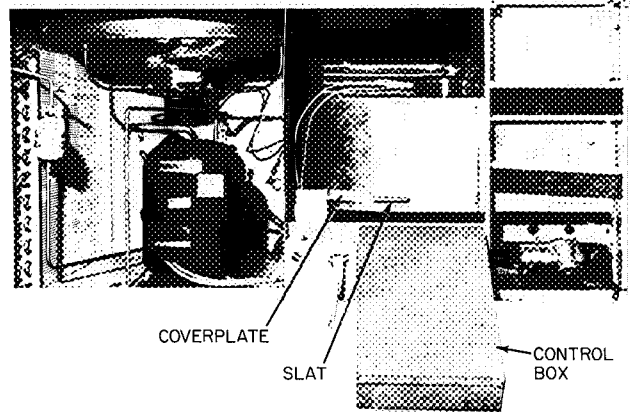

Fig. 5 — Removal of Blower Wheel Support
1. Remove blower wheel support. Before applying power to unit, the blower wheel support must be removed from its shipping location. (Refer to Fig. 5.)